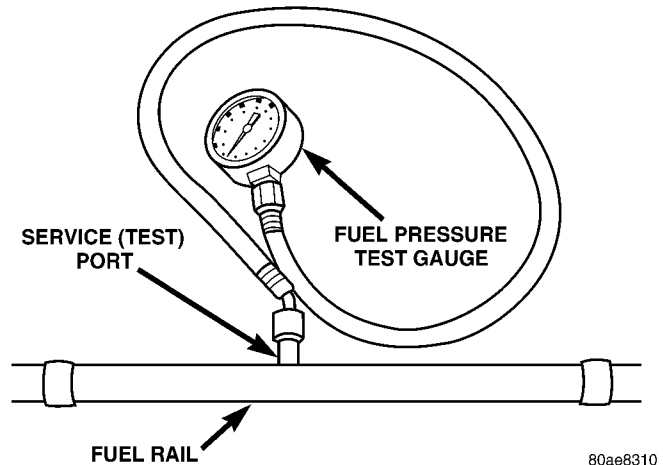

Fig. 7 Fuel Pressure Test Gauge (Typical Gauge Installation at Test Port)
(1) Remove protective cap at fuel rail test port. Connect the 0–414 kPa (0–60 psi) fuel pressure gauge (from gauge set 5069) to test port pressure fitting on fuel rail (Fig. 7).
(2) Start and warm engine and note pressure gauge reading. Fuel pressure should be 339 kPa $\pm$ 34 kPa (49.2 psi $\pm$ 5 psi) at idle.
(3) If engine runs, but pressure is below 44.2 psi, check for a kinked fuel supply line somewhere between fuel rail and fuel pump module. If line is not kinked, but specifications for either the Fuel Pump